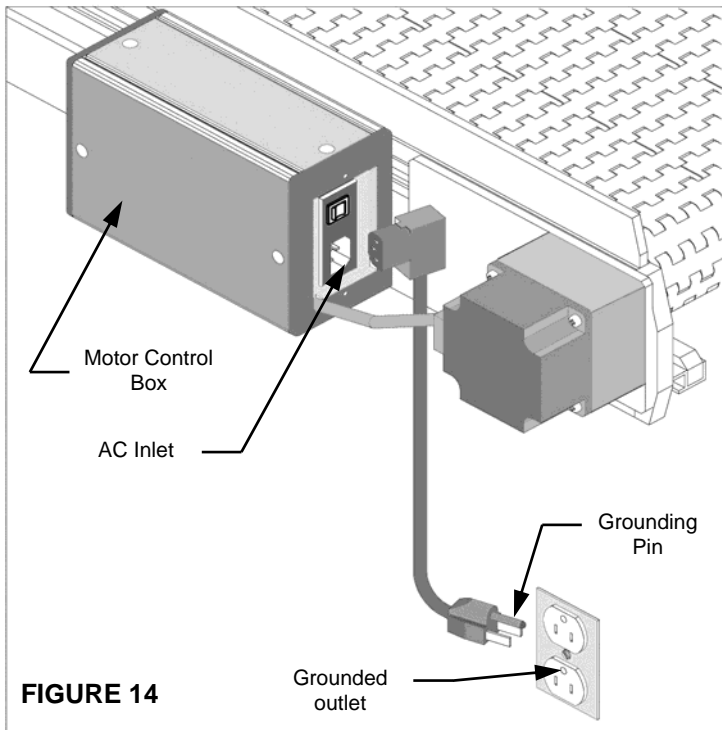

FIGURE 14
See **Figure 14**.
2. **Install Power.** The SmartMove® conveyor is supplied with a 9' long power cord that has a Right Angle IEC style molded plug that fits our A/C Switch/Fuse Inlet located on the Motor Control Box. **See Features Page 4 and Figure 14 on the Previous Page.** Plug one end into the Motor Control Box and the other end into the appropriate power source. If the conveyor was ordered with the optional internal power cords, it will have a built in power extension cable extending out the sideframe end cap at the idler end of the conveyor. This cable can be used to connect the power from this conveyor Motor Control Box to the next. You can “daisy chain” as many as 4 Motor Control Boxes to each other. (With the internal power cord option, all connected conveyors will turn off when the source box is shut off.)